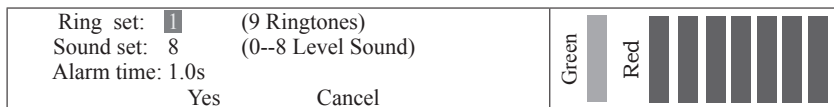

Fig. 6
- (1) Select “Alarm set” in the parameter setting interface to enter the alarm setting interface, see Fig. 6.